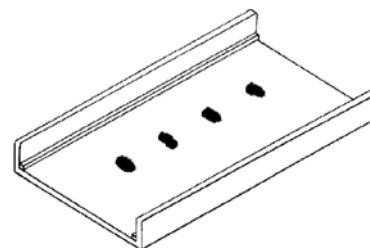

Figure 2
4. Place each ellipsoidal mass about 1—1-1/2in apart on the bottom plate (see Figure 2).